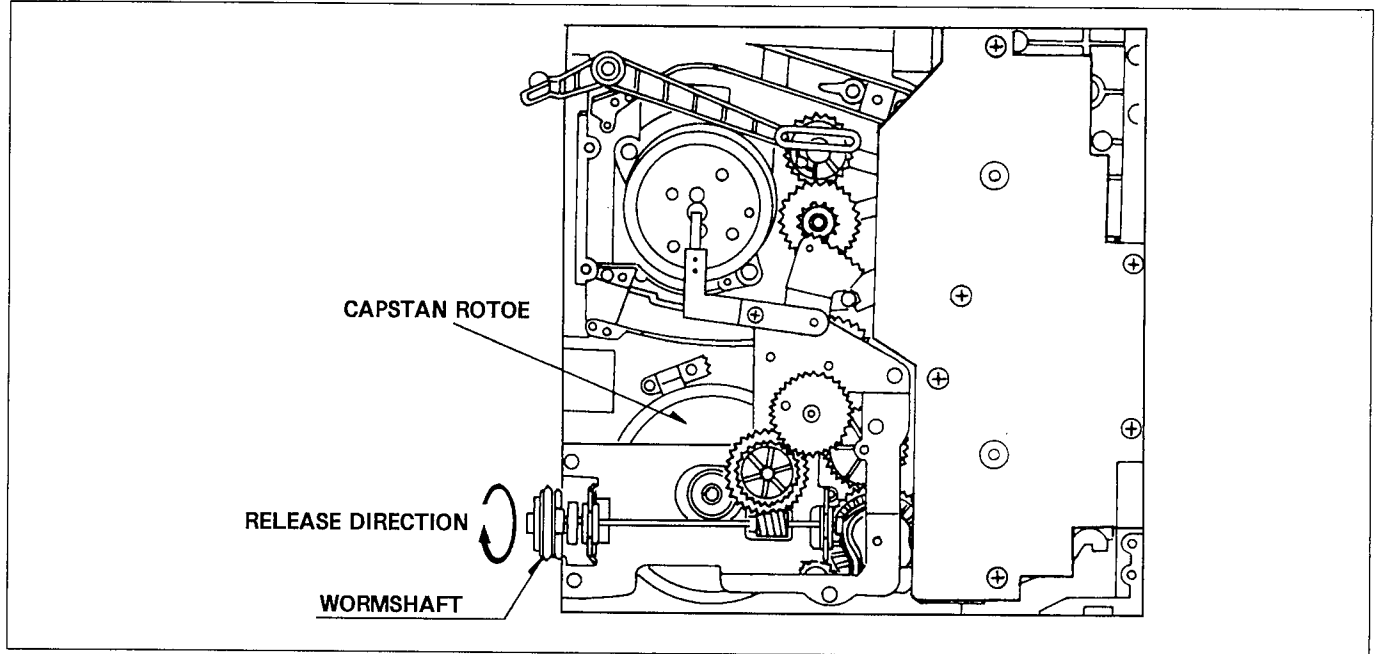

Figure M3 How to Eject Manually
2. Release the direction as shown in Figure M3.